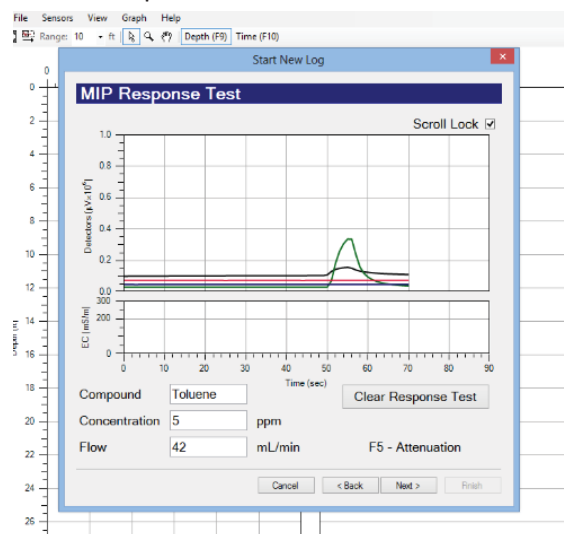

Figure 5.3: Running the Chemical Response Test
8. Starting the response test time file as the membrane is exposed to the test solution allows the trip time (Section 5.1.4) to be easily calculated by when response begins to climb which is approximately 50seconds in Fig. 5.3.